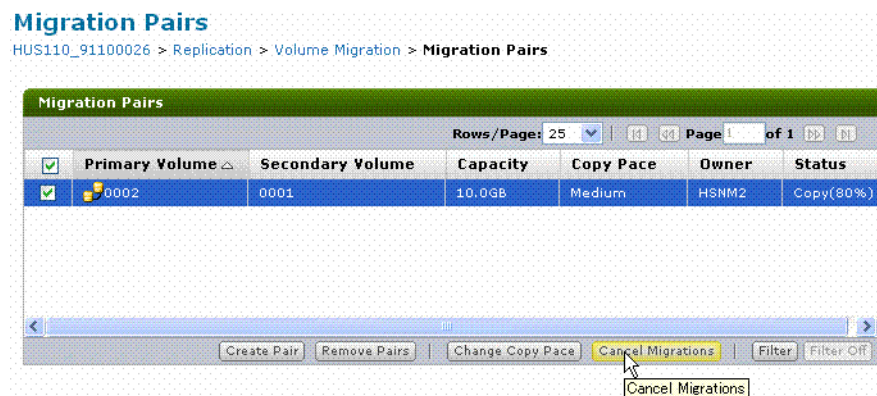

Figure 11-24: Migration Pairs - pair cancellation
4. Click **Migration Pairs**. The Migration Pairs screen displays as shown in Figure 11-24.